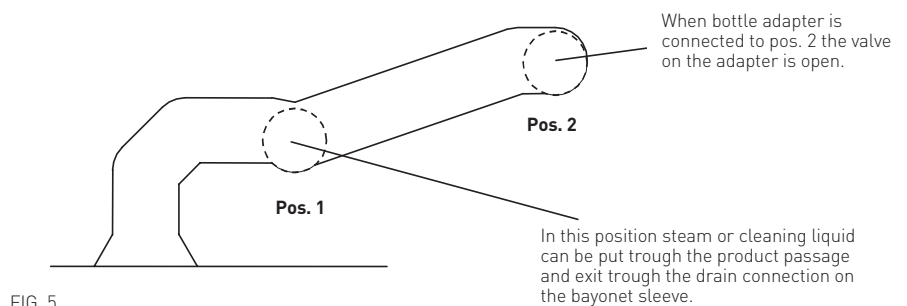

FIG. 5
4.1.4 Description of the bayonet positions (see fig. 5)